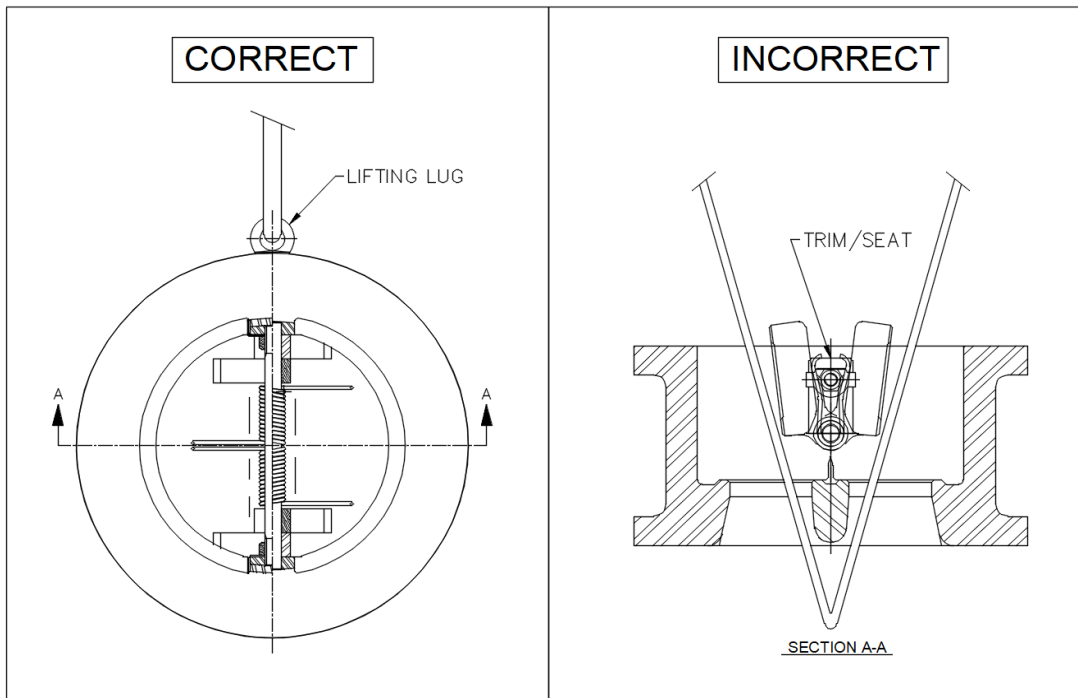
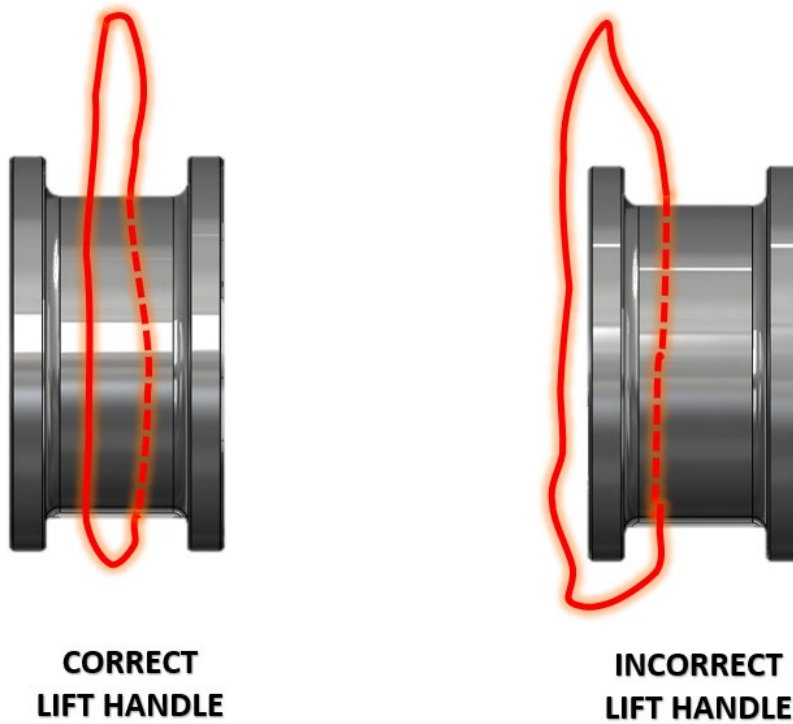

Figure 4: C&C DPWC Series dual plate wafer check valve proper lifting with lifting lug
Figure 5: C&C DPWC Series dual plate wafer check valve lift handle w/o lifting lug
- When lifting the Check Valve, utilize the eye bolt (See Fig.4) or place slings/ chains securely around the valve body. (See Fig.5)
Never lift the Check Valve by attaching slings/chains to the **trim/seat** assembly. The trim/seat assembly is not designed to withstand the weight of the unit. (See Fig.4)